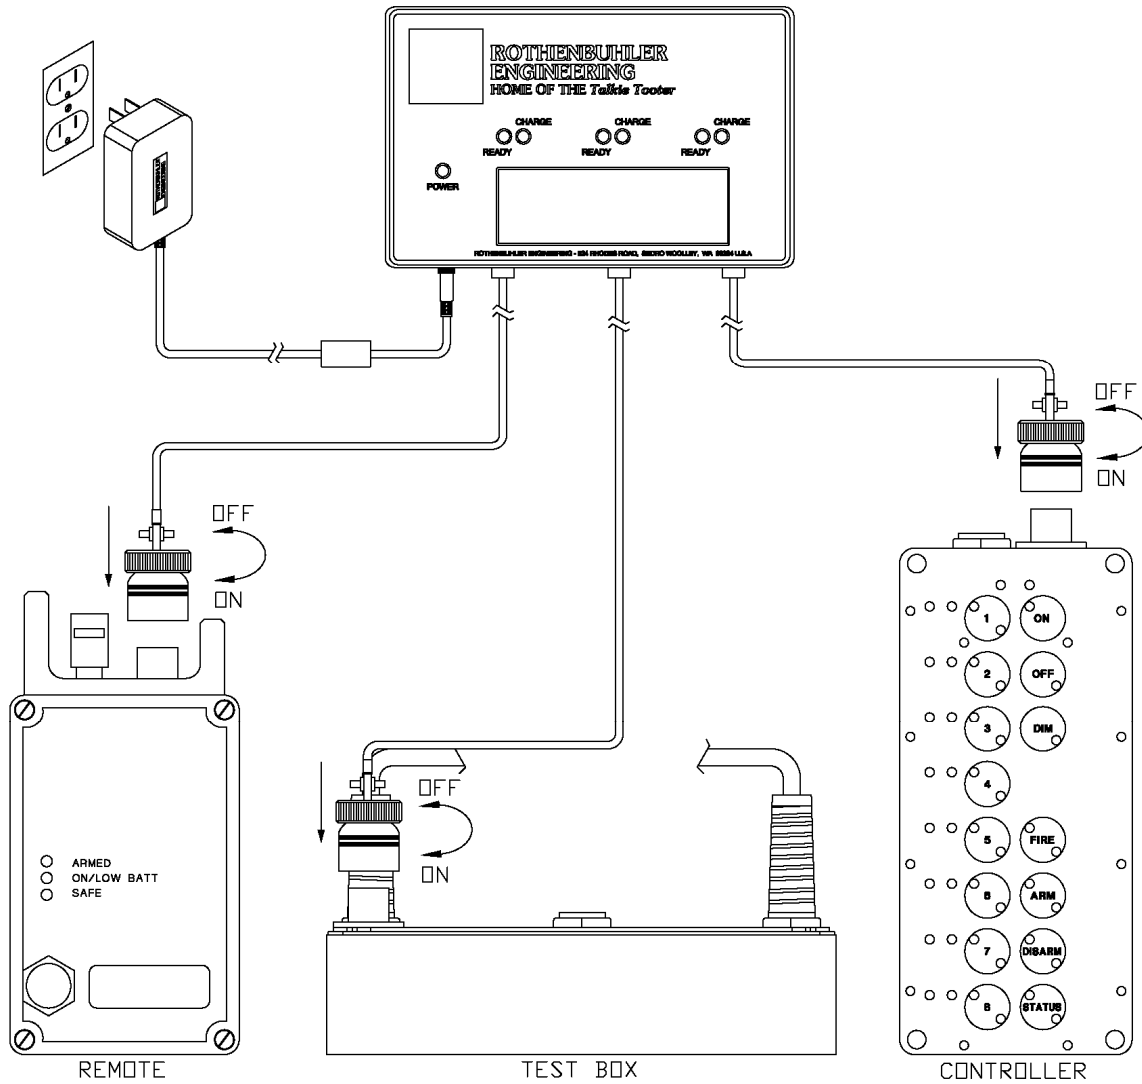

Figure 2-15 3-Position Charger Connection
2.12.1. Figure 2-15 shows the connections when using the 3-Position Charger.